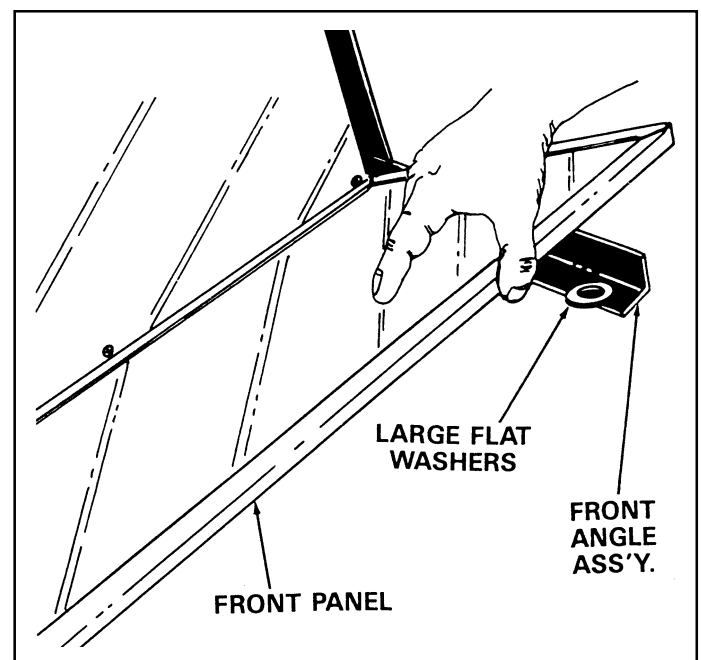

FIGURE 6
9. Lay the front panel down onto the front angle assembly, on top of the four large washers. See figure 6.